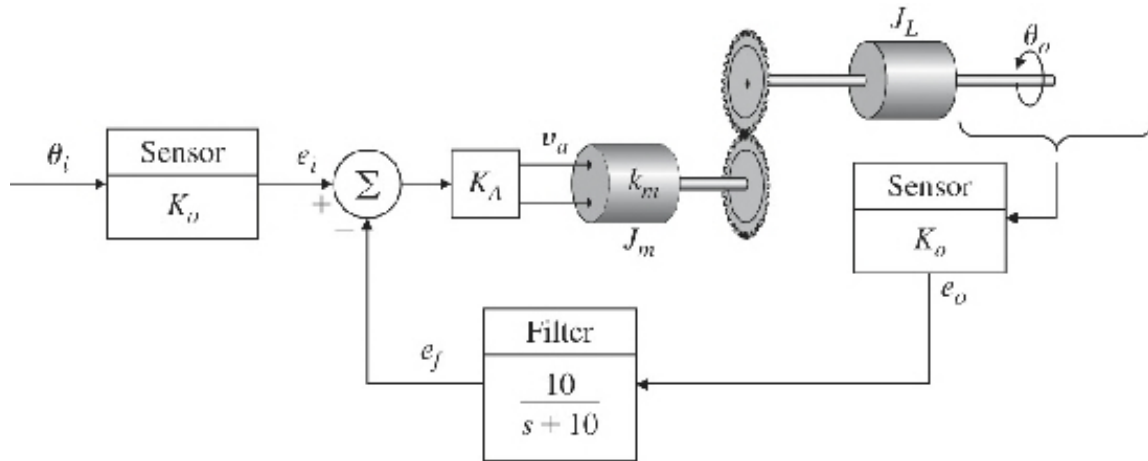

Fig. 5.64 Positioning servomechanism
35. Consider the positioning servomechanism system shown in Fig. 5.64, where